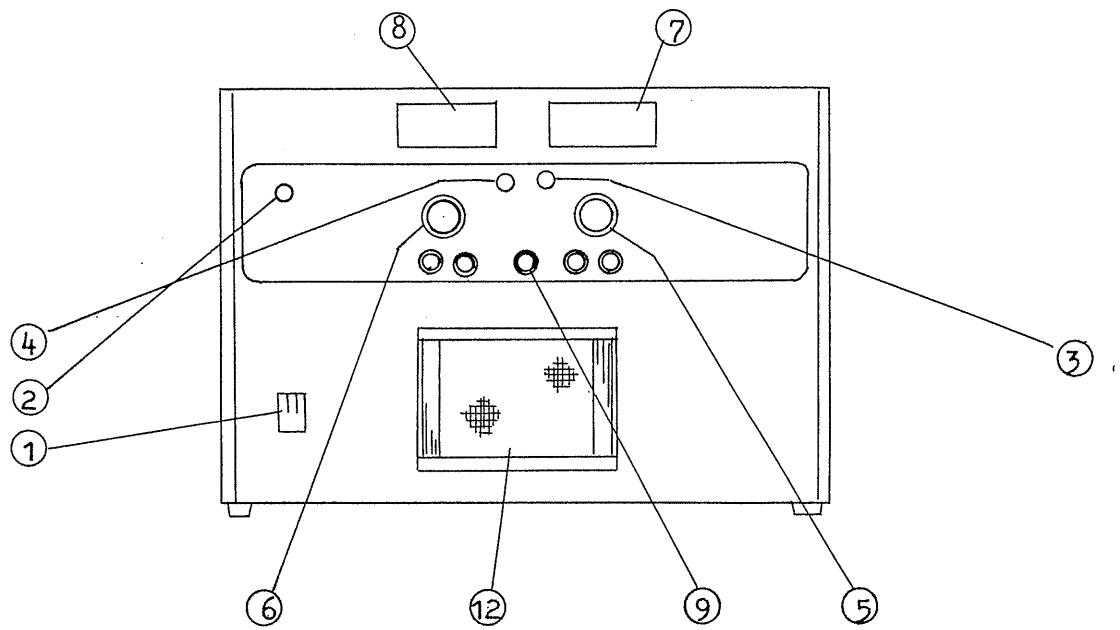

Fig. 3-1 Front panel
3.1 Front panel description (See Figs. 3-1 and 3-2.)